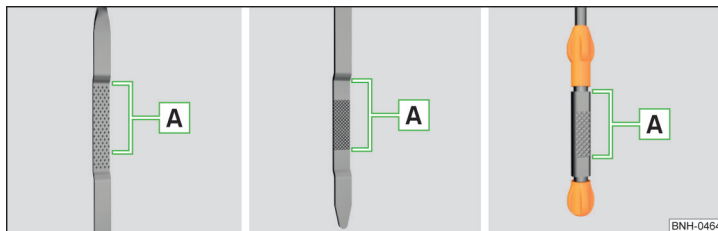

Fig. 120 Principle sketch: Dipstick
**Dipstick » Fig. 120**
- The oil level must never be above the **A** range » Fig. 120 – there is a risk of damaging the exhaust system!